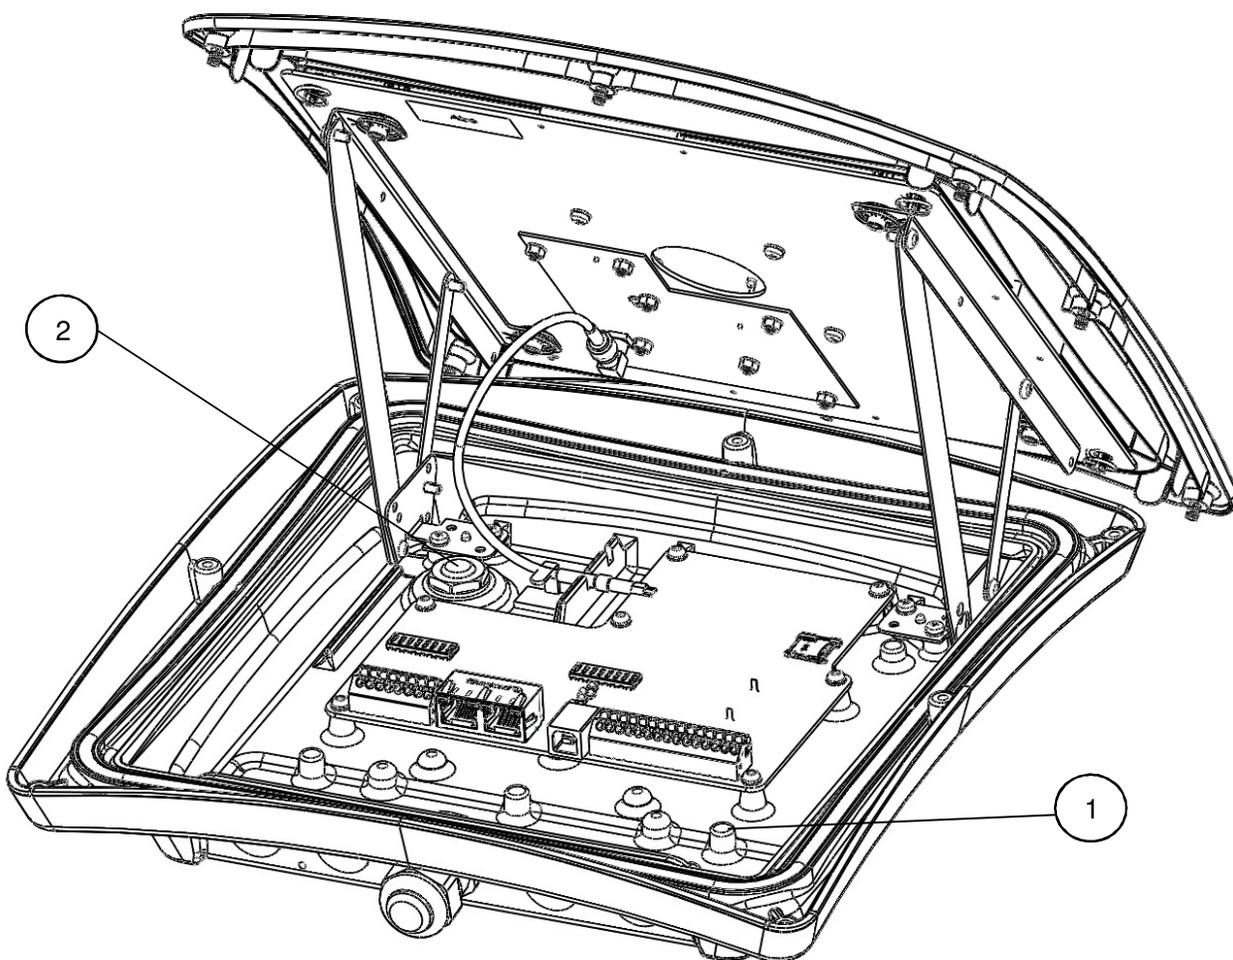

Figure 5 XT-1 overview (Pos. 1 is ground screw connection, Pos.2 is ventilating membrane)
5. Connect the shielding of the power cable to the chassis grounding point using the grounding screw (Figure 5, Pos. 1).
Never use the ventilating membrane (Figure 5, Pos. 2) on the back of the XT-1 for cable connections.